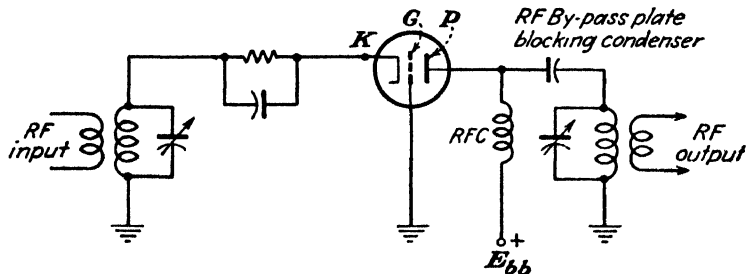

FIG. 4-24.
*Ans.* Figure 4-24 illustrates a circuit arrangement of a typical grounded-grid amplifier.